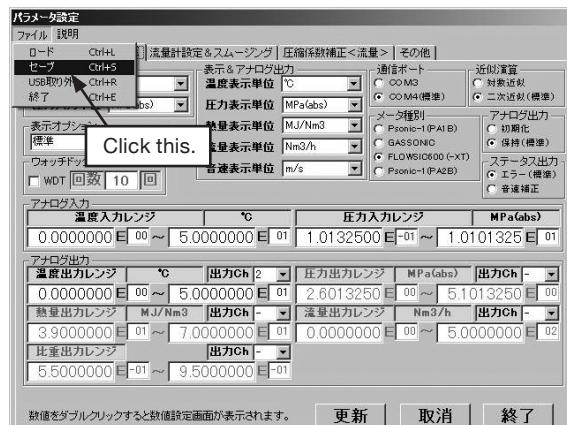

Fig. 9.4.1
2. Click [ファイル] [File]. The screen as shown in Fig. 9.4.1 appears. Then, click [セーブ] [Save].